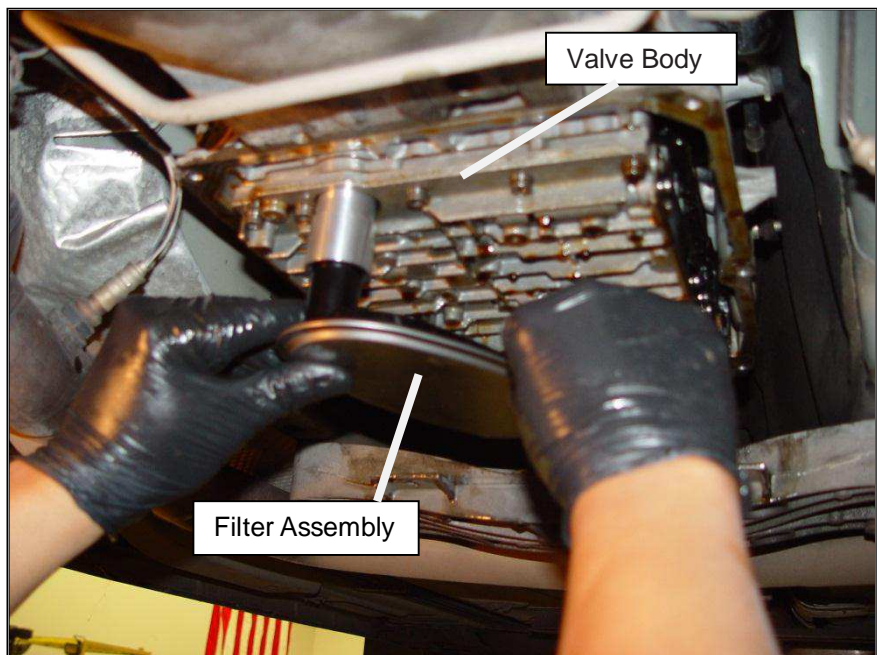

Figure 3
STEP 8. Install the filter assembly into the valve body (See Figure 3).